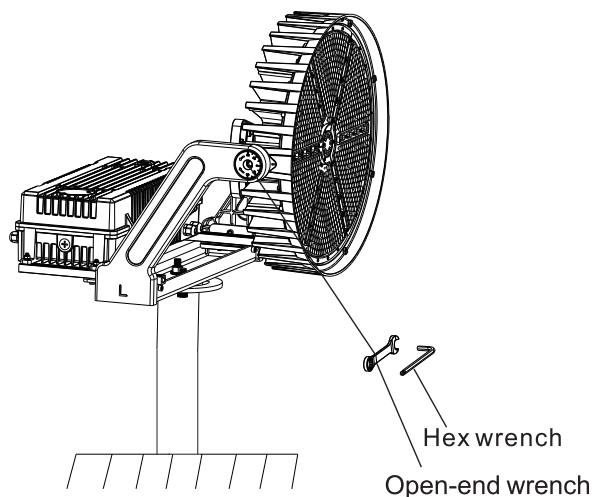

Figure 8
2. Use an open-end wrench and hex wrench to loosen the adjusting screw for adjusting the angle. (Fig. 8)